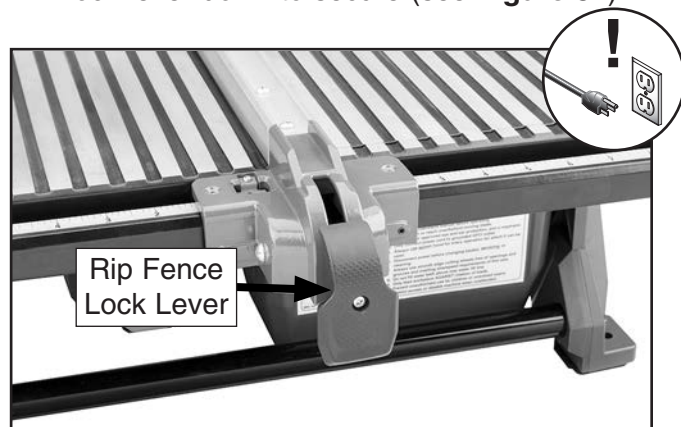

Figure 32. Rip fence locked for first cut.
4. Unlock rip fence by lifting rip fence lock lever, adjust to first cut width on scale, and push lock lever down to secure (see **Figure 32**).